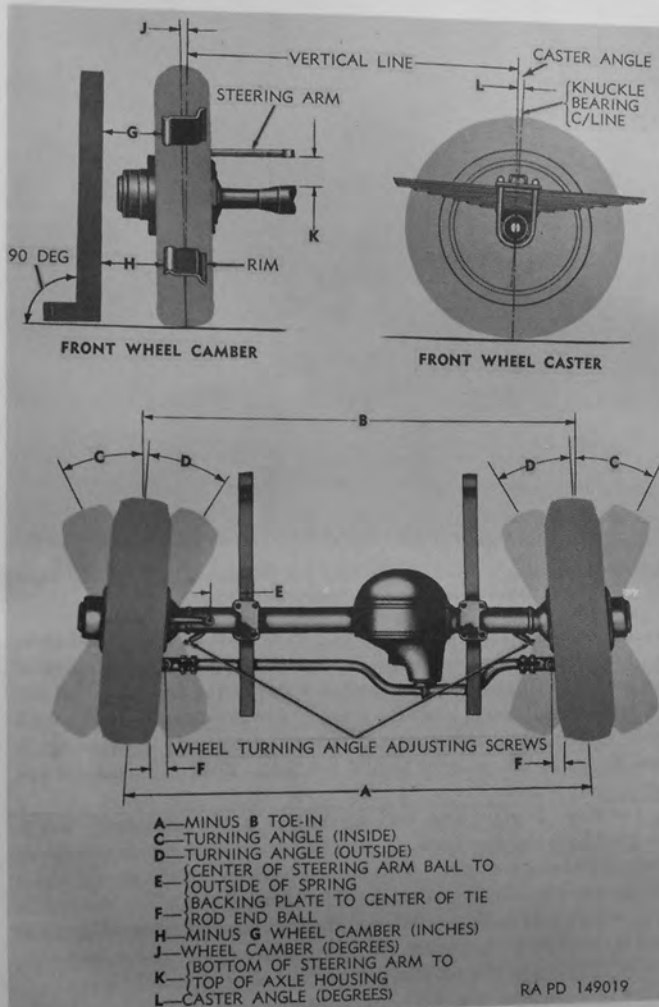
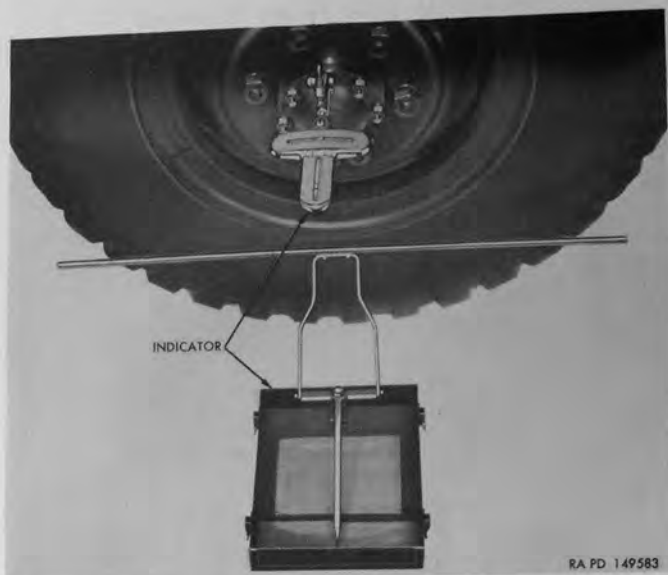

Figure 106. Front wheel and axle alignment chart.
Figure 107. Checking camber, caster, king pin inclination, and turning angle with wheel alinement indicator 41-I-130.
b. Caster.—Front axle caster is the inclination of the center line through the upper and lower steering knuckle support trunnion bearings toward the rear of the vehicle ((L), fig. 106). Caster is established by design; therefore no adjustment can be made. The axle is given this caster angle to provide a "castering" action at the front wheels when the vehicle is in motion. When the front axle has proper caster, the wheels will tend to point straightahead as long as the vehicle is in motion. Caster angle is affected by a twisted axle housing, loose spring "U" bolts, or sagging springs. Insufficient caster will permit front wheels to wander out of straightahead position. Excessive caster will cause hard steering when turning. Caster angle must be checked with the axle installed on the vehicle, using wheel alinement indicator 41-I-130 for this purpose (fig. 107). Refer to paragraph 156 for caster angle.
c. Camber.—Camber is the sidewise inclination of the front wheels. Positive camber is the outward inclination of the wheels as viewed from the front of the vehicle; that is, the wheels are farther apart at the top than at the bottom ((H) minus (G), fig. 106). Camber is established by design; therefore no adjustment can be made. A bent axle housing, bent steering knuckle, loose steering knuckle support trunnion bearings, or loose wheel bearings will affect camber. Unequal camber will cause vehicle to pull toward side having most camber. Camber may be measured with a square and rule in manner illustrated in figure 106; however, a more accurate determination can be made by use of wheel alinement indicator 41-I-130 for this purpose (fig. 107). Camber dimensions given in paragraph 156 are for straight-ahead position only and must be checked with axle installed on vehicle.
d. Toe-In.—Toe-in is the amount which the front wheels are closer together at the front than at the rear ((A) minus (B), fig. 106). An adjustable tie rod, connecting the two steering knuckle supports, is used to adjust toe-in. Camber causes both wheels to tend to turn outward from the vehicle; however, by adjusting tie rod to give wheels proper toe-in, the tendency to turn outward is counteracted and the wheels roll straightahead with no scuffing action on tires. Toe-in is affected by loose wheel bearings, bent axle housing, bent steering knuckle, loose steering knuckle support trunnion bearings, or a bent or improperly adjusted tie rod. Improper toe-in causes excessive tire wear or "scuffing." Unequal toe-in may cause the vehicle to pull
toward the side having the least toe-in. When wheels are turned from straightahead to either right or left, toe-in changes, until at extreme right or left positions they are farther apart at the front than at the rear. This condition is termed toe-out. Always measure toe-in with wheels in straightahead position, either by actually measuring A minus B, figure 106 or refer to TM 9-819A. Toe-in dimensions are given in paragraph 156.
e. Turning Angle.—The turning angle is the maximum angle through which the front wheels may be turned to right or left from the straightahead position. This angle is greater for the inside wheel than the outside wheel on a turn. The turning angle for the inside wheel is shown as C, figure 106, and the turning angle for the outside wheel is shown as D, figure 106. Turning angle should be checked with the axle installed on the vehicle, using wheel alinement indicator 41-I-130 for this purpose (fig. 107). Stop plugs, threaded and welded in housing (fig. 108), are provided to limit the angle through which the inside wheel can turn. Refer to paragraph 156 for inside and outside turning angle, and to *f* below for adjustment procedure.
- (3) *Adjust stop plug.*—Adjust stop plug by threading into or out of housing until angle C, figure 106, is correct for left wheel as indicated in paragraph 156. Use wheel alinement indicator 41-I-130 to obtain correct angle (fig. 107).
- (4) *Check angle "D."*—With wheels in position giving correct angle for "C" on left wheel, check angle D, figure 106, for the right wheel. If this angle is different than given in paragraph 156, toe-out on turns will not be correct. Inspect for bent, loose, or twisted tie rod and correct as necessary.